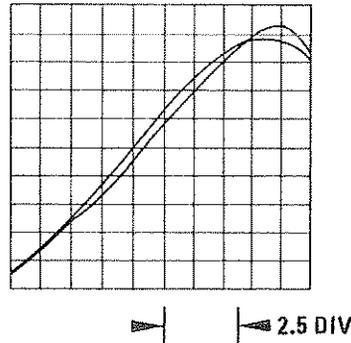

Figure 5-13. Optimum Offset YTM Response
20. Tune to 13 GHz and adjust A1A8R41, BD3 LO, to center the response 2.5 divisions to the right of center. The response should be as shown in Figure 5-13.